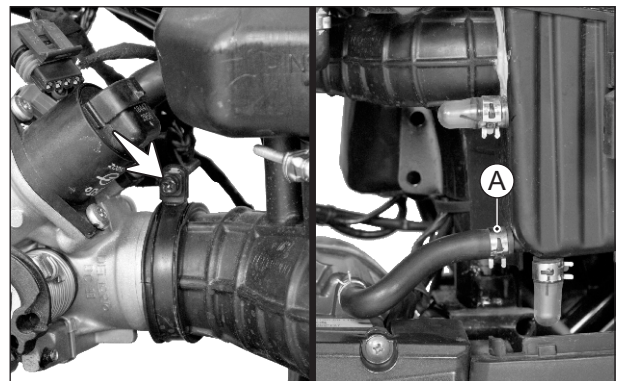

Fig. 6.132
- Loosen the clamp tube outlet screw and dislocate the tube outlet from the throttle body assembly. (Fig. 6.132)
- Remove hose clip (A) from hose engine breather and pull out the hose from air filter cleaner assembly. (Fig. 6.132)